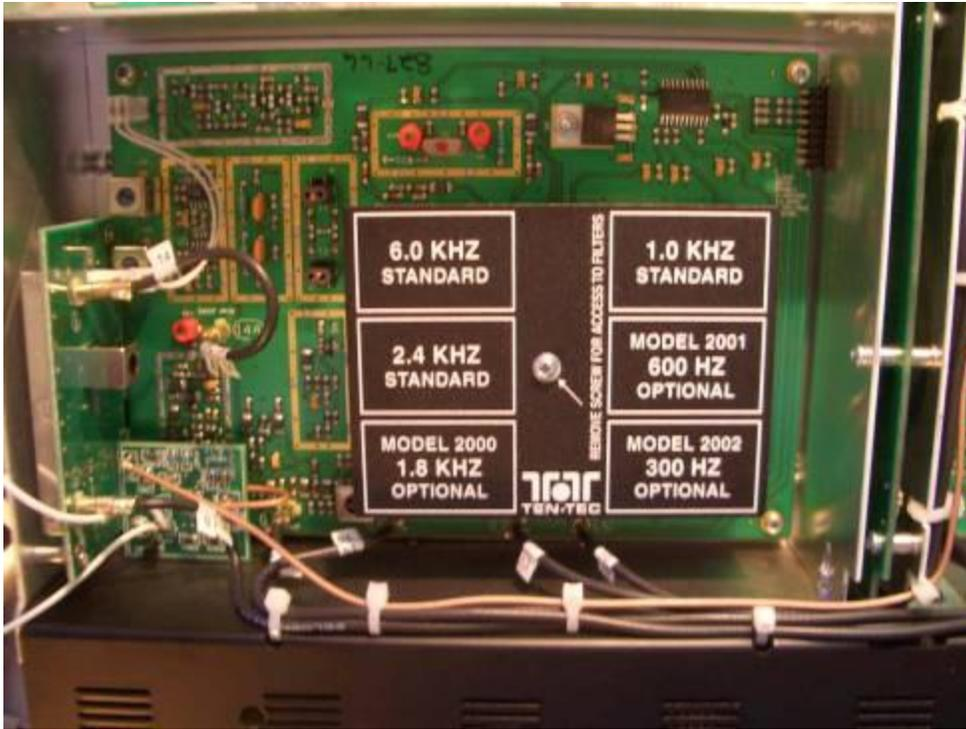

Figure A-3: Modified 9 MHz IF board with Z10000 Buffer at lower left
11. Mount the Z10000 buffer with a 1 inch metal stand-off and appropriate longer 4-40 screw in the lower left corner of the 9 MHz IF enclosure (Figure A-3 below).
12. The necessary 13.8 VDC power can be obtained at the edge connector in the upper right of Figure A-3. When the DC power connection is completed replace the filter cover.
13. Solder a piece of RG-178 coax from the output of the Z10000 buffer and route it through an existing wiring harness at the front of the rig and then down the centre to the rear Orion (see Figure A-3 above) to the **SPARE** connector jack.